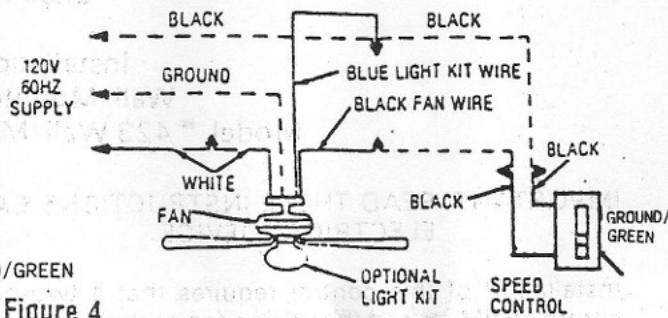

Figure 4
CASE B: If your fan is equipped with an optional light kit, connect the switch to the motor circuit only as shown in Figure 4. The light must be controlled from a separate power lead connected to the blue light kit lead as shown in Figure 4.
- Connect the blue light kit lead to the black (hot) lead from the household supply from another circuit (not shown), or from the same circuit ahead of the speed control (shown in Figure 4).